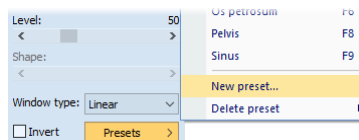

Figure 155 – Creating a new window/level preset
2. Click the **Presets** button in the **Window/level** tool, and select the **New preset...** item (see Figure 155) in the displayed drop-down list.